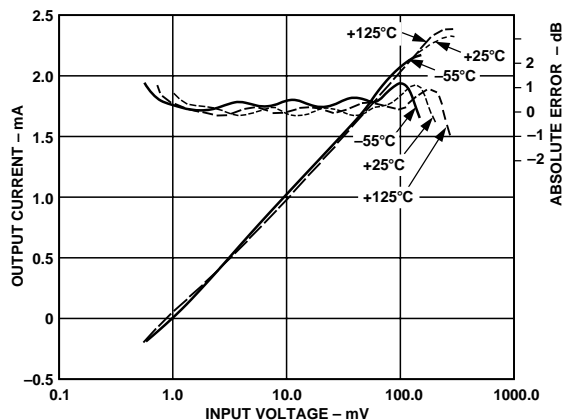
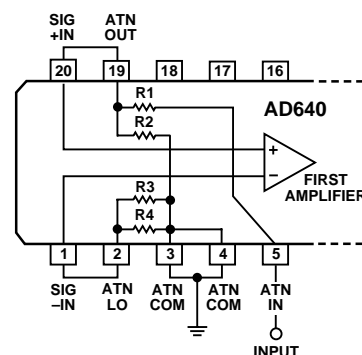

Figure 18. Logarithmic Output and Absolute Error vs. DC or Square Wave Input at  $T_A = -55^\circ\text{C}$ ,  $+25^\circ\text{C}$ , Input Direct to Pins 1 and 20
Figure 26. Details of the Input Attenuator
The logarithmic function of the AD640 is absolutely calibrated to within  $\pm 0.3$  dB (or  $\pm 15$   $\mu\text{A}$ ) for 2 kHz square-wave inputs of  $\pm 1$  mV to  $\pm 100$  mV, and to within  $\pm 1$  dB between  $\pm 750$   $\mu\text{V}$  and  $\pm 200$  mV. Figure 18 is a typical plot of the dc transfer function, showing the outputs at temperatures of  $-55^\circ\text{C}$ ,  $+25^\circ\text{C}$  and  $+125^\circ\text{C}$ . While the slope and intercept are seen to be little affected by temperature, there is a lateral shift in the endpoints of the “linear” region of the transfer function, which reduces the effective dynamic range. The cause of this shift is explained in Fundamentals of Logarithmic Conversion section.
In applications where the signal amplitude is sufficient, the on-chip attenuator should be used because it provides a temperature independent dynamic range (compare Figures 18 and 19). Figure 26 shows this attenuator in more detail. R1 is a thin-film resistor of nominally 270  $\Omega$  and low temperature coefficient (TC). It is trimmed to calibrate the intercept to 10 mV dc (or -24 dBm for sinusoidal inputs), that is, to an attenuation of nominally 20 dBs at 27°C. R2 has a nominal value of 30  $\Omega$  and has a high positive TC, such that the overall attenuation factor is 0.33%/°C at 27°C. This results in a transmission factor that is proportional to absolute temperature, or PTAT. (See Intercept Stabilization for further explanation.) To improve the accuracy of the attenuator, the ATN COM nodes are bonded to both Pin 3 and Pin 4. These should be connected directly to the “SIG-